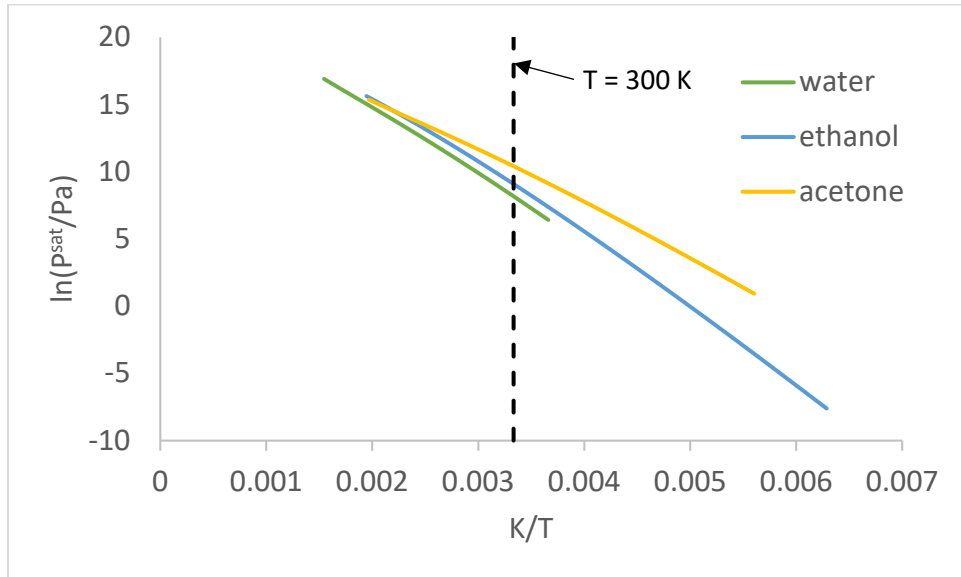

Figure 1 Temperature dependence of the vapor pressure of water, ethanol, and acetone.
- Figure 1 shows the temperature dependence of the vapor pressure of water, ethanol, and acetone.